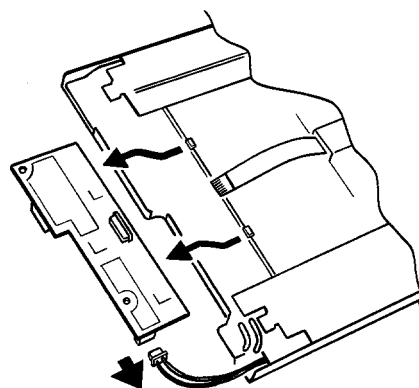

Figure 3c Circuit board removal (2)
- c. Taking all necessary precautions against static discharge, gently work the circuit board out, carefully avoiding damaging any of its components. Disconnect the illumination tube connector (figure 3c).